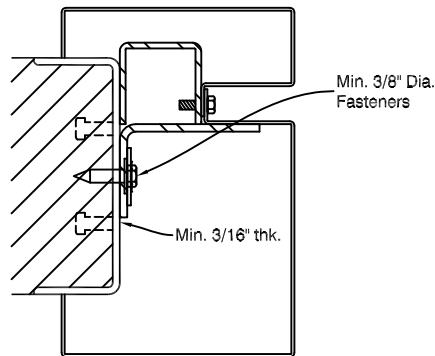

Fig. 9
c. When fastening to a steel frame, drill and tap holes for the appropriate fastener size. Fasten as shown in Fig. 9 with a min. of 3/8" dia. fasteners equal to that specified in the latest edition of NFPA 80 section 6-4.1.4. Note: Steel frame member must be embedded or secured to the masonry wall prior to the wall / guide assembly to them.